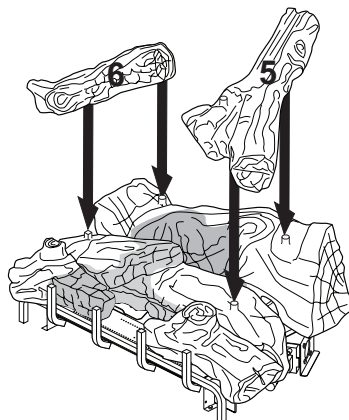

Figure 26 - Installing Logs #5 and #6
4. Place right crossover log (#5) as shown in Figure 26. Match round peg on top of rear log (#1) with round hole on bottom of right crossover log (#5) and square peg on top of middle log (#2) with square hole on bottom of crossover log (#5).
5. Place left crossover log (#6) onto rear log (#1) and middle log (#2). Match round peg on top of rear log (#1) with round hole on bottom of left crossover log (#6) and square peg on top of middle log (#2) with square hole on bottom of left crossover log (#6) as shown in Figure 26.